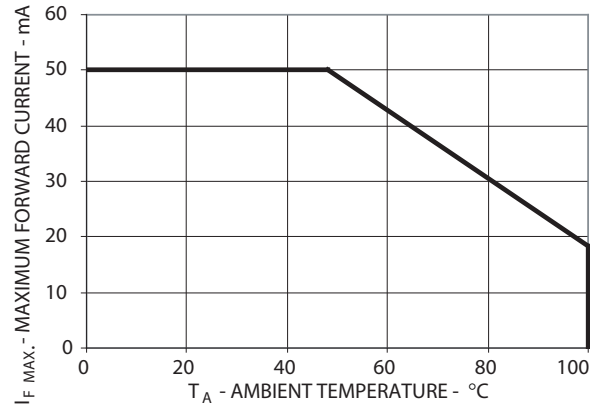

Figure 2. Maximum Forward Current vs Ambient Temperature
1. Derate linearly as shown in Figure 2 and Figure 8.